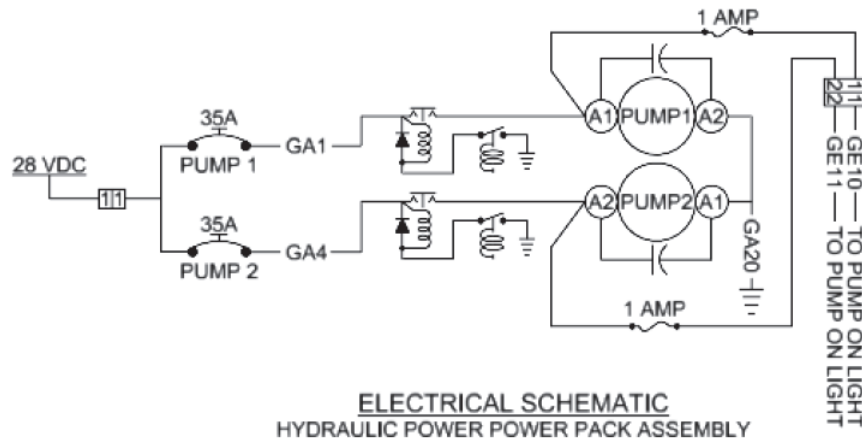

**FIGURE 13**
m. Install hydraulic lines 1011361-10, 1011361-11, 1011361-12 and 1011361-13 from the tee fittings at the top of the inline filters on the directional valve assembly through the clamps (MS21919WDG12) on the top fuselage mount angle to the existing bulkhead fittings on both sides of the fuselage. Tighten all clamps. See Figure 13 and hydraulic schematic.